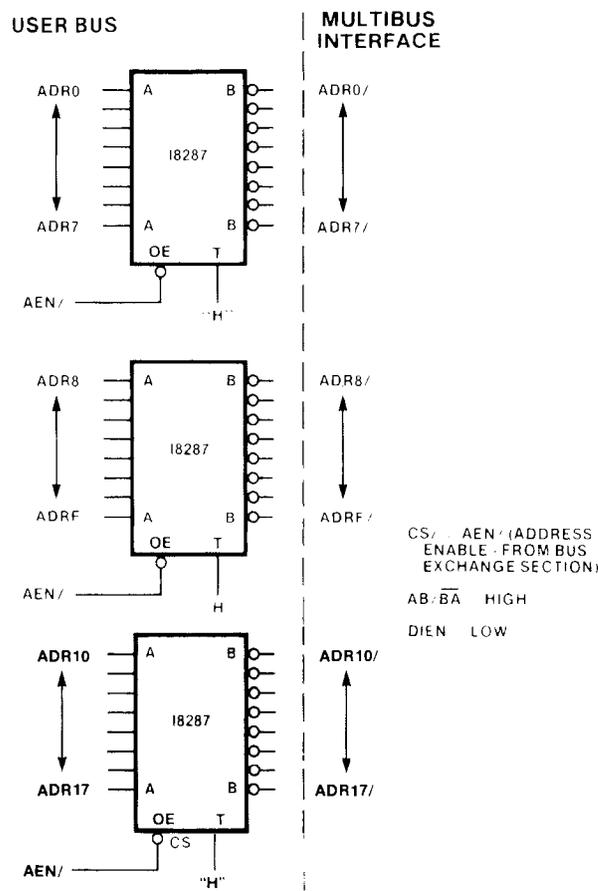

Figure 5.8 24 Bit Uni-Directional Bus Drivers
**5.1.2.1 UNI-DIRECTIONAL DRIVERS.** The MULTIBUS interface requires three-state drivers on the address lines. Figure 5-8 provides a straight forward design for masters which only drive the address lines (no dual port memory). The buffers are enabled only if the master has control of the bus (AEN/ active, see Bus Exchange).